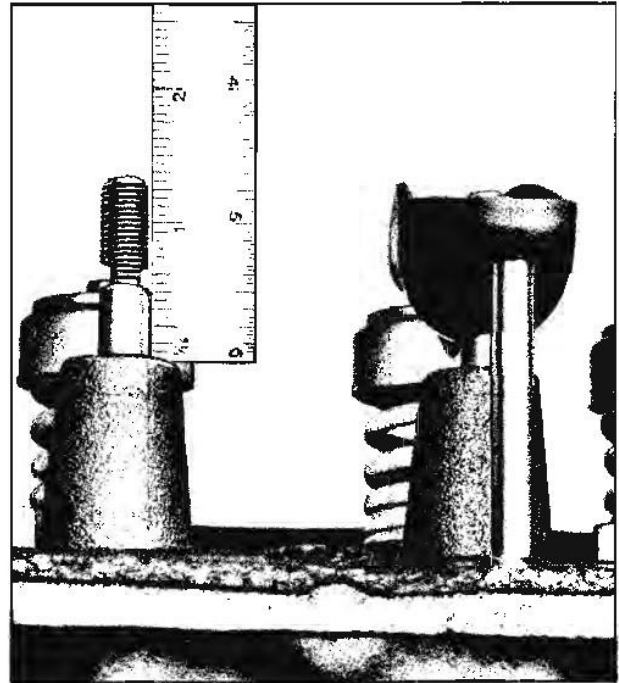

Fig. 6-29 Slots for Removing Rocker Arm Stud
3. File two slots $\frac{3}{32}$ " to $\frac{1}{8}$ " deep on opposite sides of rocker arm stud (Fig. 6-29). Bottom of slots should be $\frac{1}{2}$ " from top of studhole (Fig. 6-29).